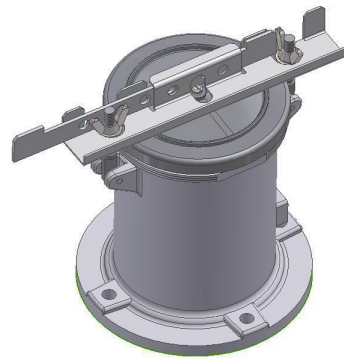

Figure 2
3. Insert pressure plate into terminal so that set screws, pressure plate and wire are aligned (figure 2).
4. Slip the locking bracket under the right wing nut and over the flat washer as shown in Figure 2. Tighten the wing nut ¼ turn until it is parallel with the locking bracket